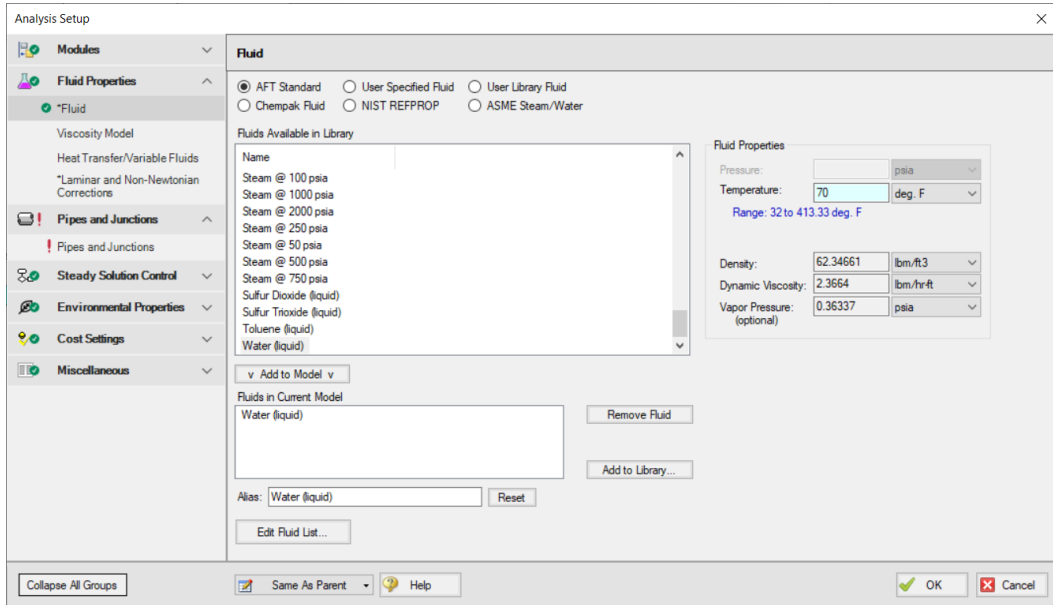

Figure 2.12 The fully defined Fluid panel
- **Select AFT Standard to see the available fluids** (see Figure 2.12). Select Water (liquid) in the library list, then click the Add to Model button below the list. On the right, enter a temperature of 70 deg. F. This satisfies the required inputs for the Fluid panel and Fluid Properties group.